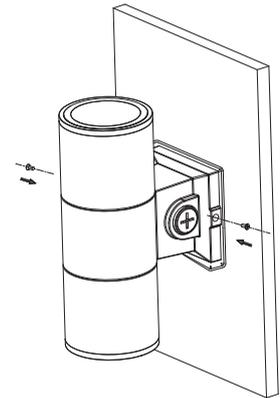

Fig 3
3. Fix the fixture with screws. (Fig 3)